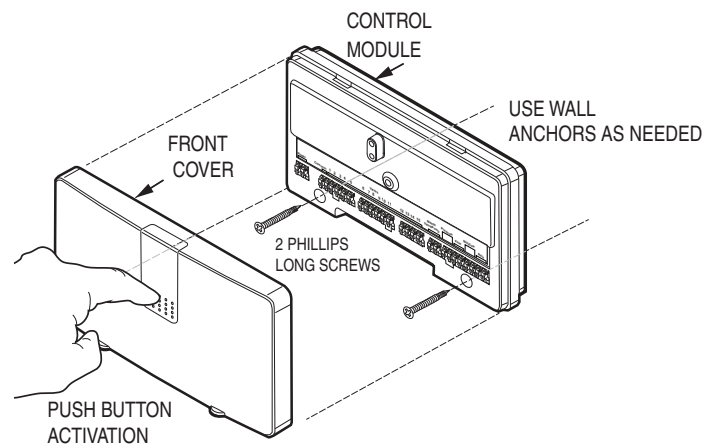

Figure 2. Control Module Locking Screws
2. Remove front cover of controller and install the two long screws to lock unit in place on the wall (See Figure 2).